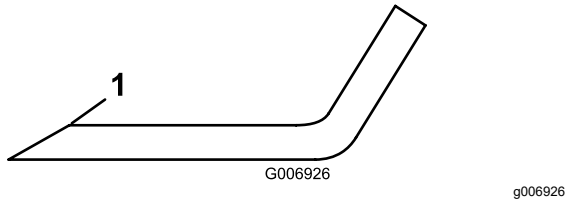

Figure 76
5. Inspect the cutting edges of all blades. Sharpen the cutting edges if they are dull or nicked. Sharpen only the top of the cutting edge and maintain the original cutting angle to make sure that it is sharp (Figure 76).
6. If dull or nicked, sharpen only the top cutting edge while maintaining the original cutting angle (Figure 76).